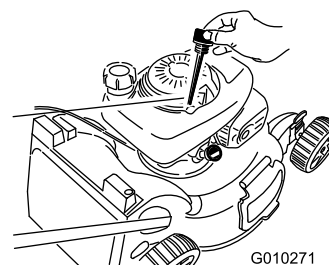

Figure 39
2. Remove the dipstick (Figure 39).